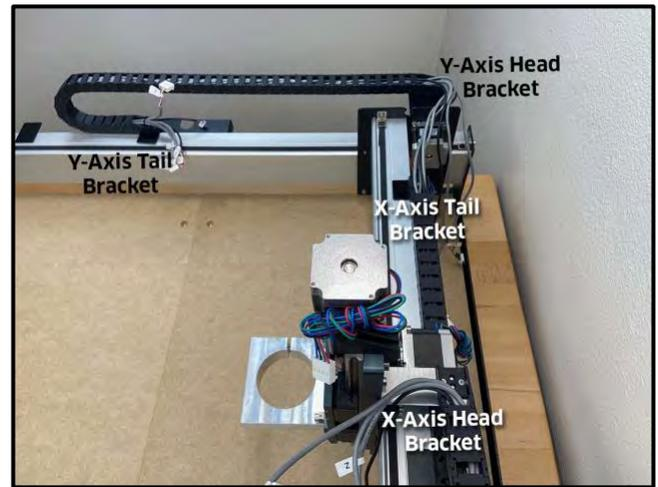

Figure 32
3. Secure the drag chain to the rails. See **Fig. 32**.
- i. Use a 2mm hex key and two (2) M3×6mm FHS to secure.
- ii. Use a 2mm hex key and one (1) M3×6mm FHS to secure.